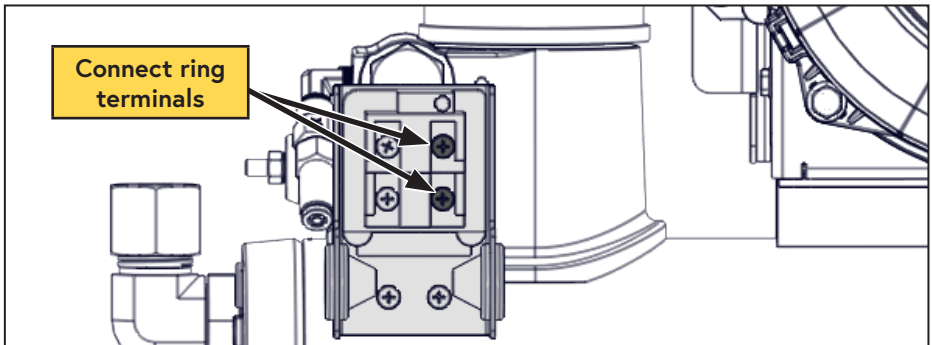

Figure 51 — Connect pressure switch
- Remove the cover from the WHASP Tank pressure switch and connect the 2 ring terminals from the control module to the pressure switch on the WHASP Tank (not polarity dependent) (Figure 51).